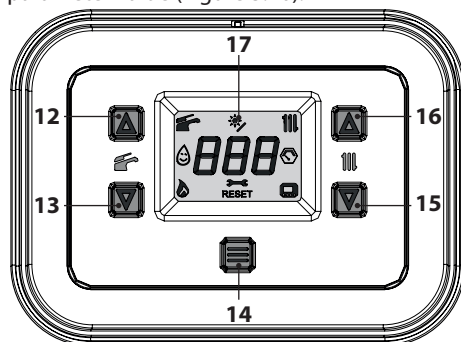

Figure 3.9
To access the INFO mode, press keys 15 and 16 (Figure 3.9) together until the index "**J00**" is shown on the display in alteration with the parameter value (Figure 3.10).
- press and hold the 13 and 15 keys simultaneously for 5 seconds (Figure 3.9) (one level up).
The flue gas probe and 18 are triggered when the flue gas temperature exceeds 110°C, activating the boiler safety lockout, shutting it off. To reset normal boiler operation simply press the button 14 (Figure 3.9).